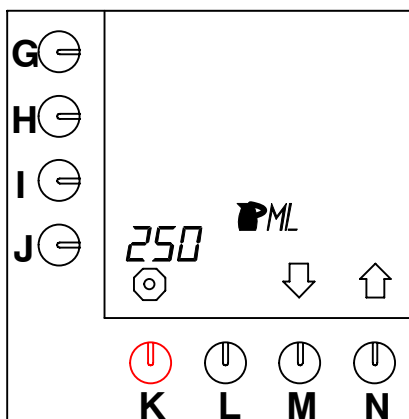

Fig. 36 Jug contents
- Press selection key (N.)↑ until fig.36 appears on the display.